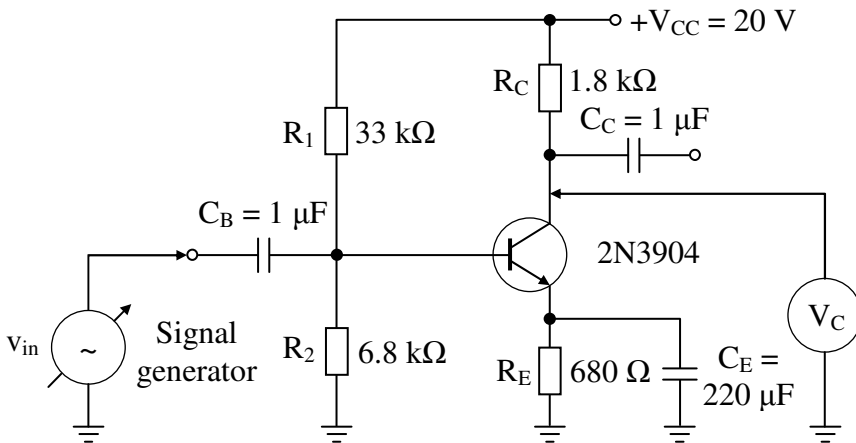

Fig. 6.6 Schematic diagram of the common-emitter amplifier
4. The next part of the experiment will essentially be a repeat of a number of the steps above for a transistor with a higher beta. Our goal is to show the effects of different beta levels on the resulting levels of the important quantities of the network. First the beta level for the other transistor, specifically a 2N4401 transistor, must be determined. Simply remove the 2N3904 transistor from Fig. 6.6 and insert 2N4401 transistor, leaving all the resistors and voltage V_{CC} as in Exp. 6.3.1. Then measure the voltages V_{BE} and V_{RC} and, using the same equations with measured resistor values, calculate the levels of I_B and I_C . Then determine the level of β for the 2N4401 transistor.
1. Construct the circuit shown in Fig. 6.6.